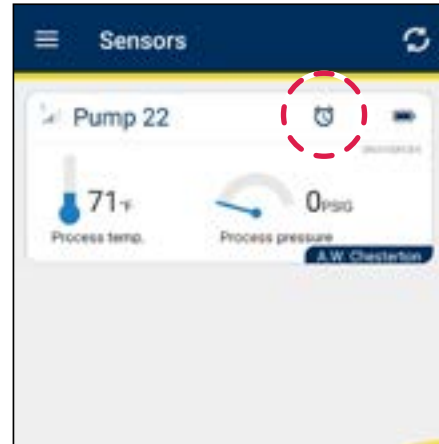

Figure 46
4. Once reconnected, the **Clock Icon** will be displayed next to the battery level icon (see figure 46).